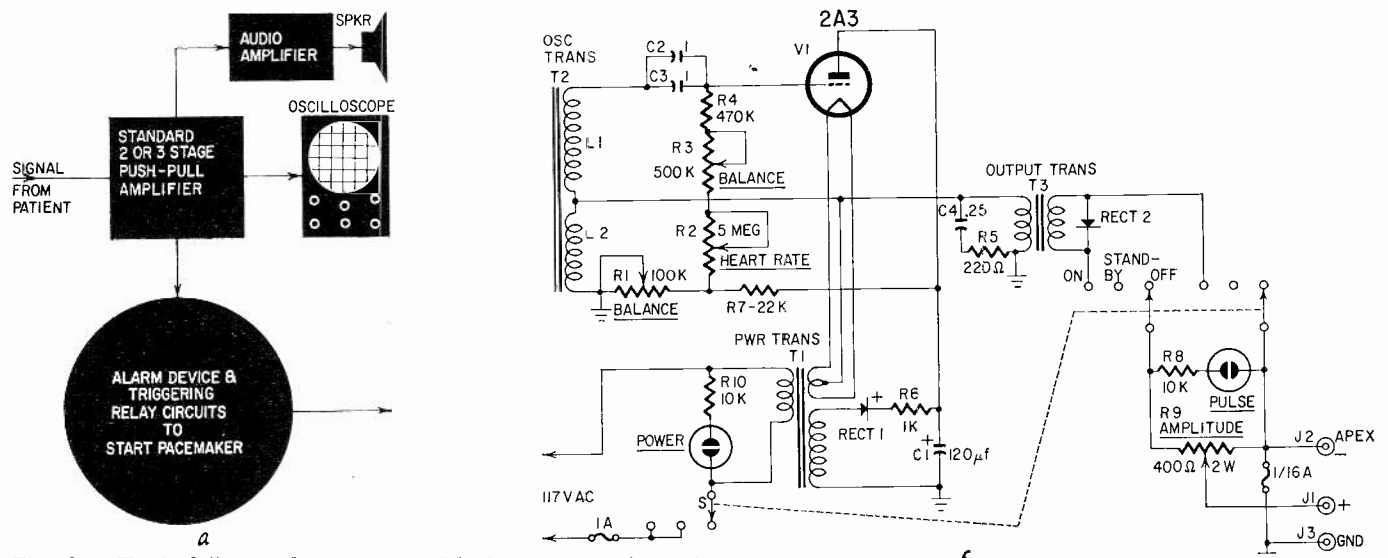

Fig. 2—Typical Pacemaker unit: a—block diagram of monitor system to start the Pacemaker automatically when it is needed; b—schematic diagram.
Fig. 2 is a typical example of Pacemaker circuitry. Power to the instrument is controlled by an ON-OFF-STANDBY switch (S) located on the front panel. All power is disconnected in the OFF position. In STANDBY, all circuits are activated with the exception of the pulse output jacks to the patient's electrodes. These are energized in the ON position. With the switch in ON or STANDBY, the POWER INDICATOR glows. The PULSE INDICATOR is excited only in the ON position and only when a pulse occurs. This makes the lamp flicker once for each pulse. A typical power supply consists of a transformer and